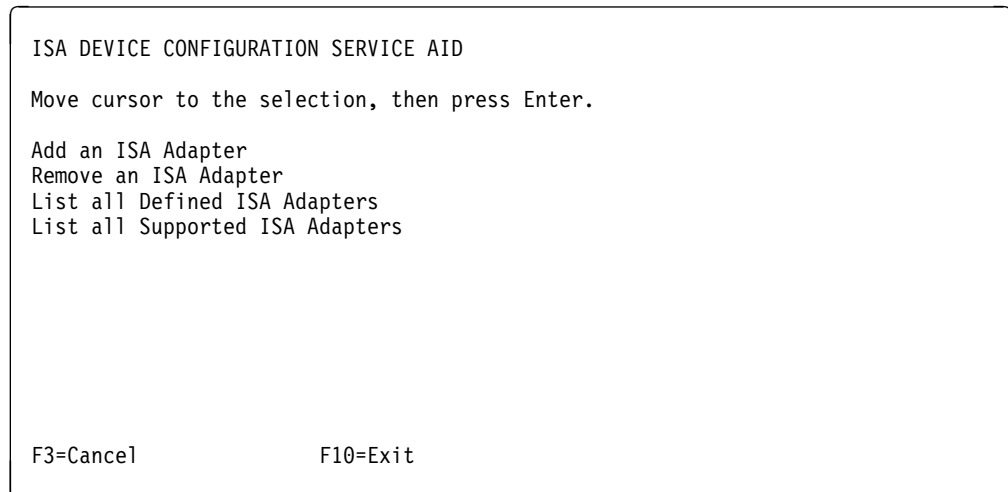

Figure 43. ISA Adapter Service AID Diagnostic Menu
4. Select **ISA Adapter Configuration Service Aid**. This will provide you with a menu like the one shown in Figure 43.